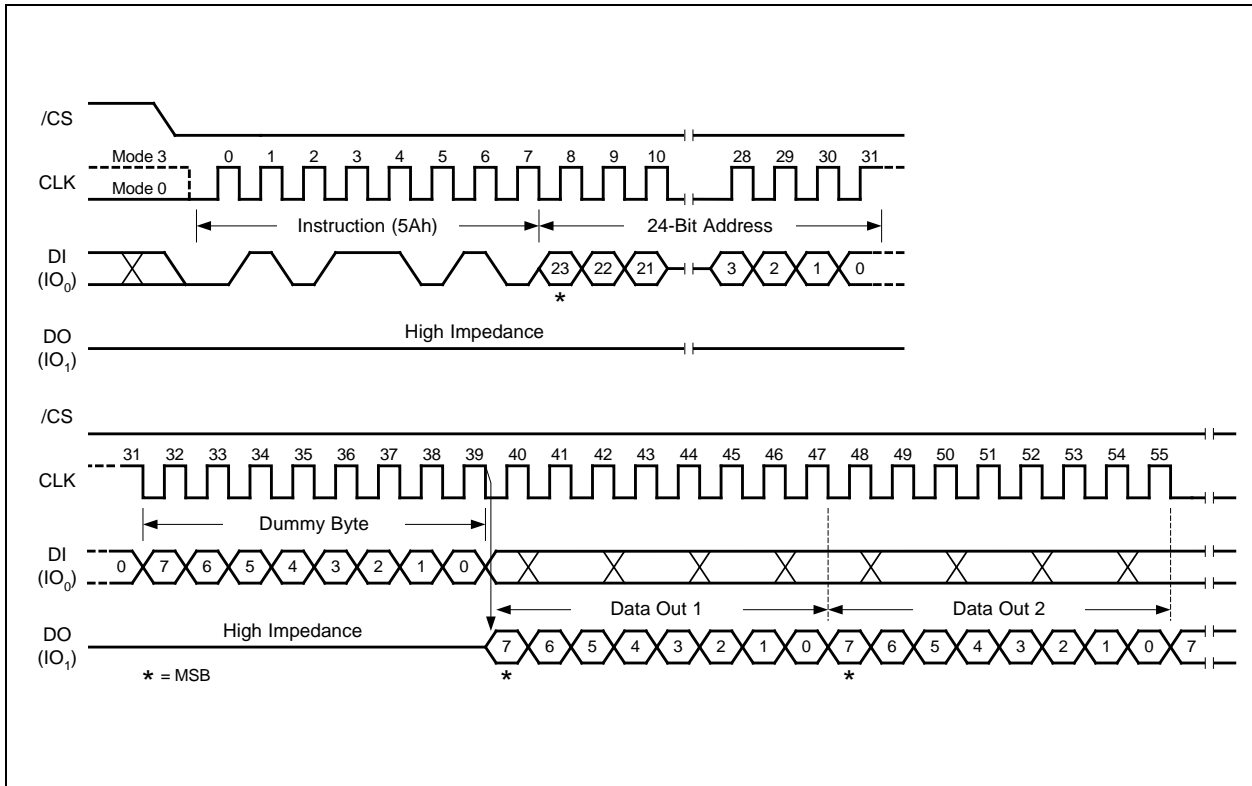

Figure 31. Read SFDP Register Instruction Sequence Diagram
The Read SFDP instruction is initiated by driving the /CS pin low and shifting the instruction code “5Ah” followed by a 24-bit address (A23-A0)(1) into the DI pin. Eight “dummy” clocks are also required before the SFDP register contents are shifted out on the falling edge of the 40th CLK with most significant bit (MSB) first as shown in Figure 31. For SFDP register values and descriptions, please refer to the Winbond Application Note for SFDP Definition Table.